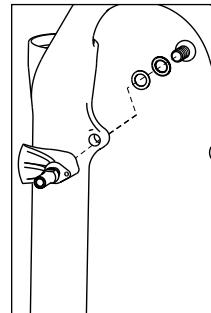

Fig. 6
1. Using the mounting hardware provided, install the brake adapter against the fork leg using the tabs provided (Fig. 6).